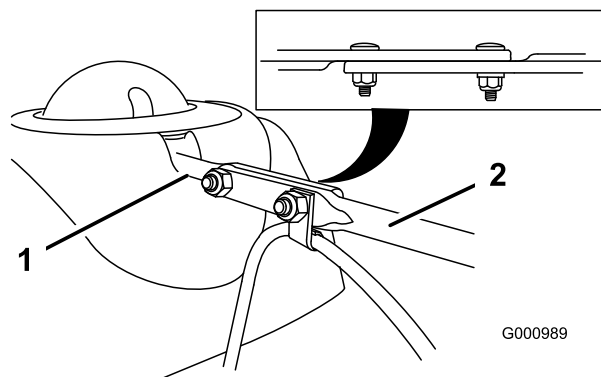

Figure 6
12. Align the flattened end of the long rod with the flattened end of the short rod that extends from the control panel so they nest together (Figure 6).